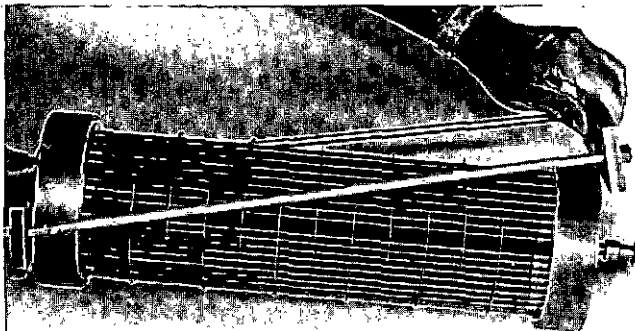

Fig. 7-21. Adjust The Length Of The Fixture
- b. Put the sliding plate of the fixture so that the fixture will fit over the element and end plates, Fig. 7-21.